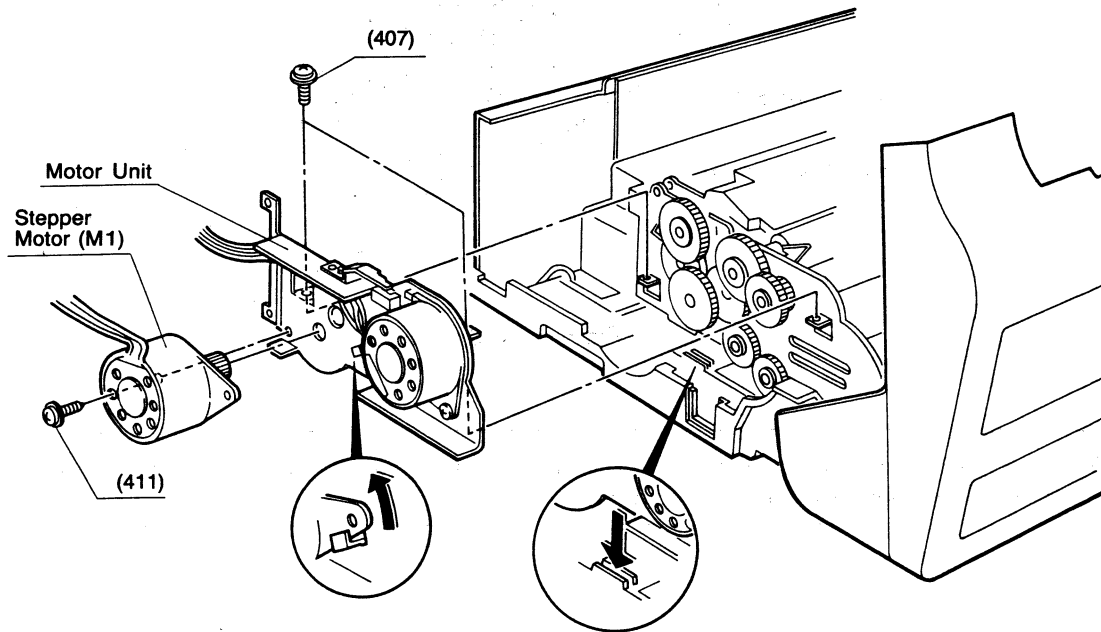

Figure 4.3.29
- (1) Open the receiving unit.
- (2) Remove the covers. (See paragraph 4.3.1.1.)
- (3) Remove two screws (407) and take out the motor unit. (See Figure 4.3.29.)
- (4) Remove four screws (408) which secure the mechanical assy, and lift the front end of it up.
- (5) Remove the transmitting eject gear (125) and two D6 pillows (144), and then remove the transmitting eject roller (115).
- (6) To reinstall, reverse the removal procedures.
- (4) Remove four screws (408) which secure the mechanical assy from the lower base assy (1), and lift the front end of it up.
- (5) Turn the recording paper guide plate (128) and the transmitting eject guide plate (2) towards you.
- (6) Remove the screw (410) and take out the transmitting eject pinch roller assy (6).
- (7) To reinstall, reverse the removal procedures.
- (4) Remove the E-Ring (413) and take out the ADF gear (123).